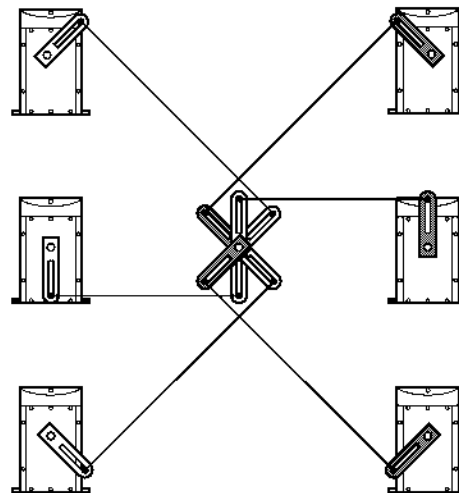

Figure-35 Typical Actuator Mounting Positions.
2. Mount the actuator in an appropriate position near the damper. Refer to Figure-35. Actuators must be linked to the damper so that it can complete its full stroke. Damper rod that is too long is not rigid enough for good control and damper rod that is too short makes it difficult to adjust the linkage.